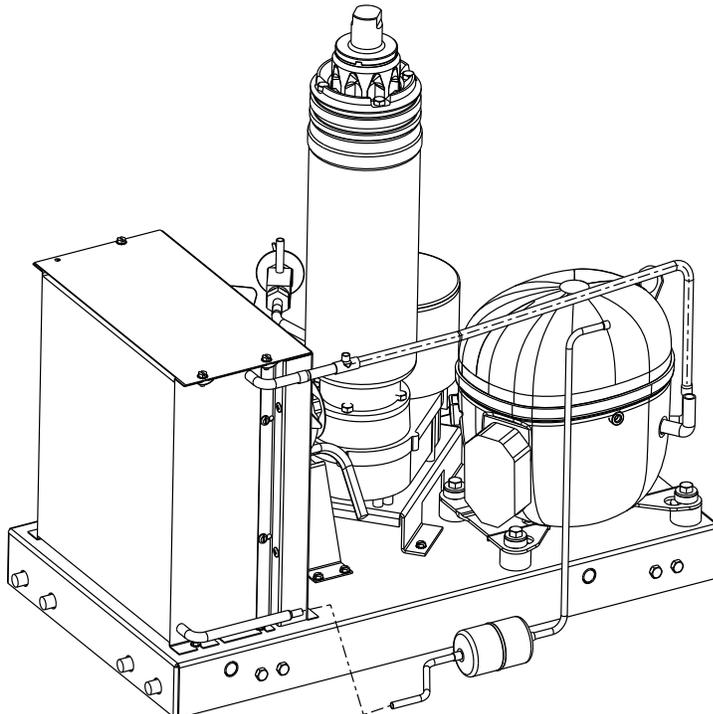

Figure 5. Connection of the Dryer assembly
7. Connect the Dryer assembly as shown in Figure 5.